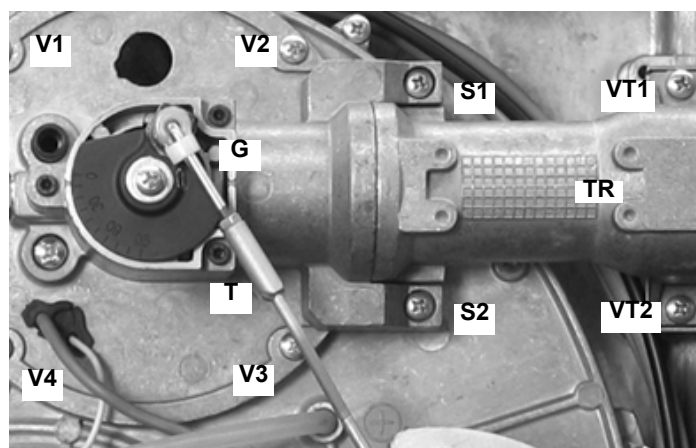
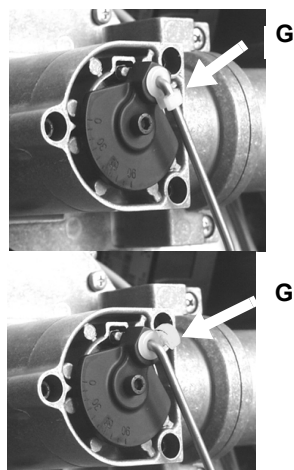

Fig. 61
Fig. 62
- 1 By means of the plastic hook **G**, unlock the rod **T** (Fig. 61) which drives the butterfly valve (Fig. 61 and Fig. 62), to disconnect it from its seat.
- 2 Remove the screws **V1**, **V2**, **V3**, **V4** and the screws **S1** and **S2** (Fig. 61).